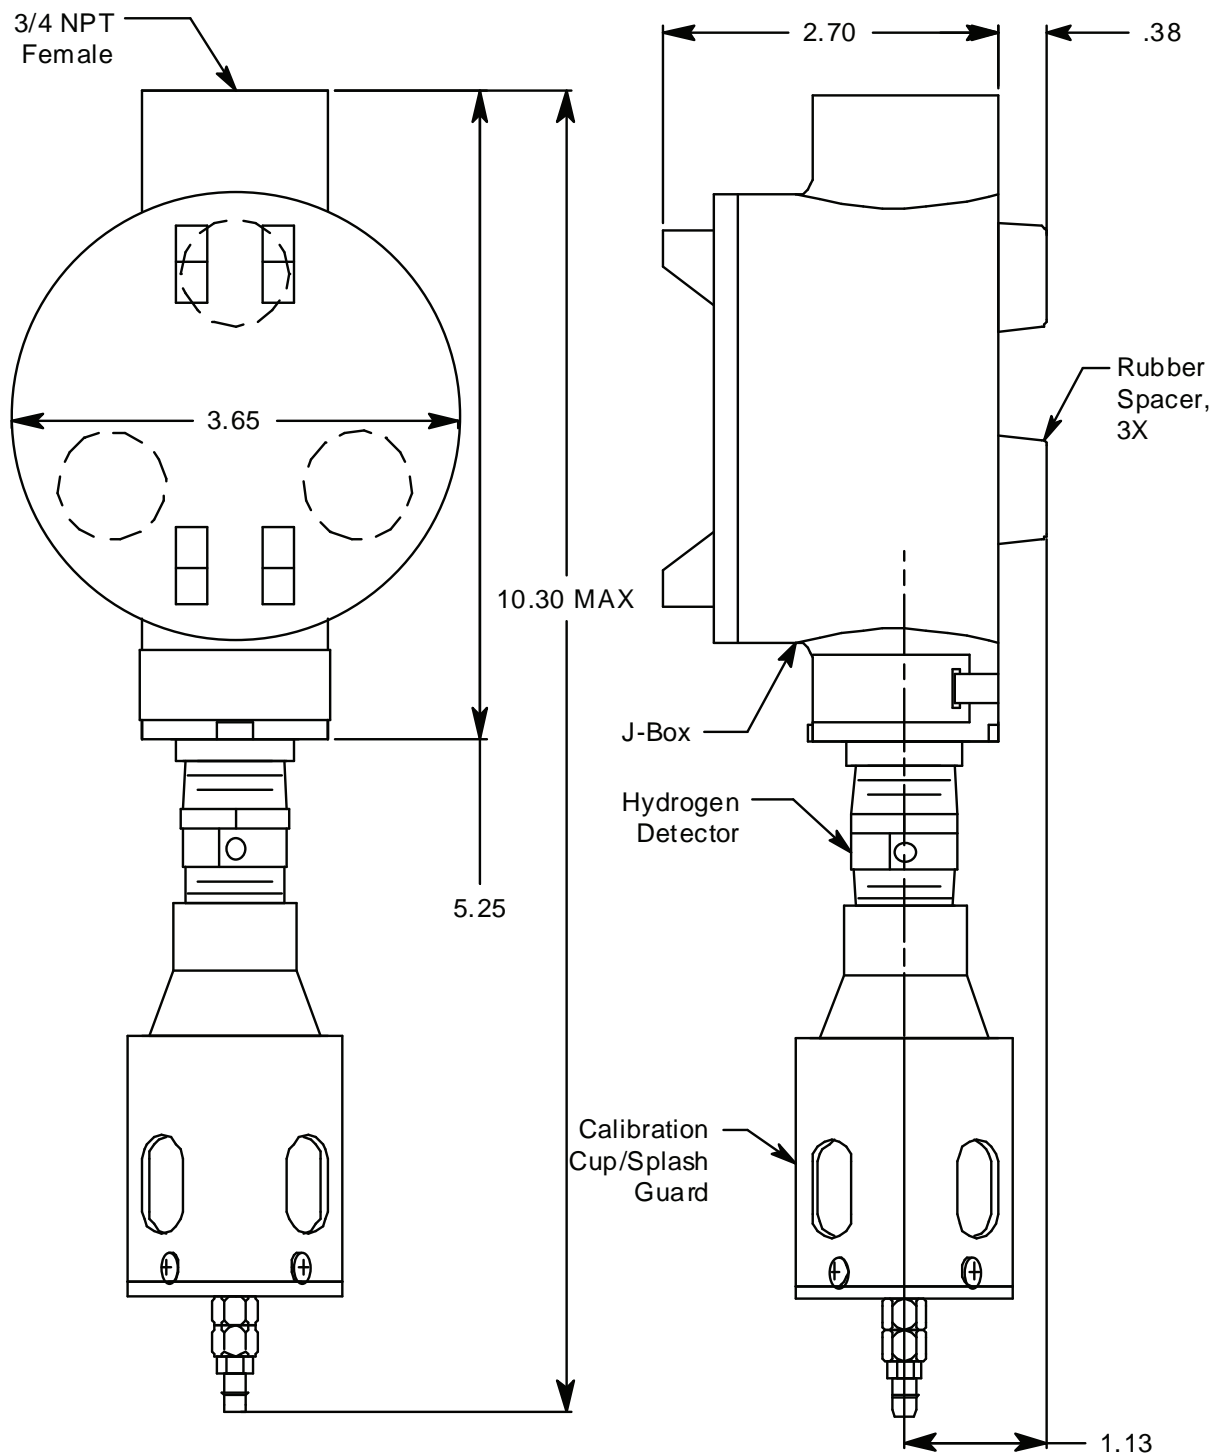

Figure 2: Mounting the Hydrogen Transmitter
2. At the monitoring site you select, hang or mount the detector junction box with the detector facing down (see Figure 2).